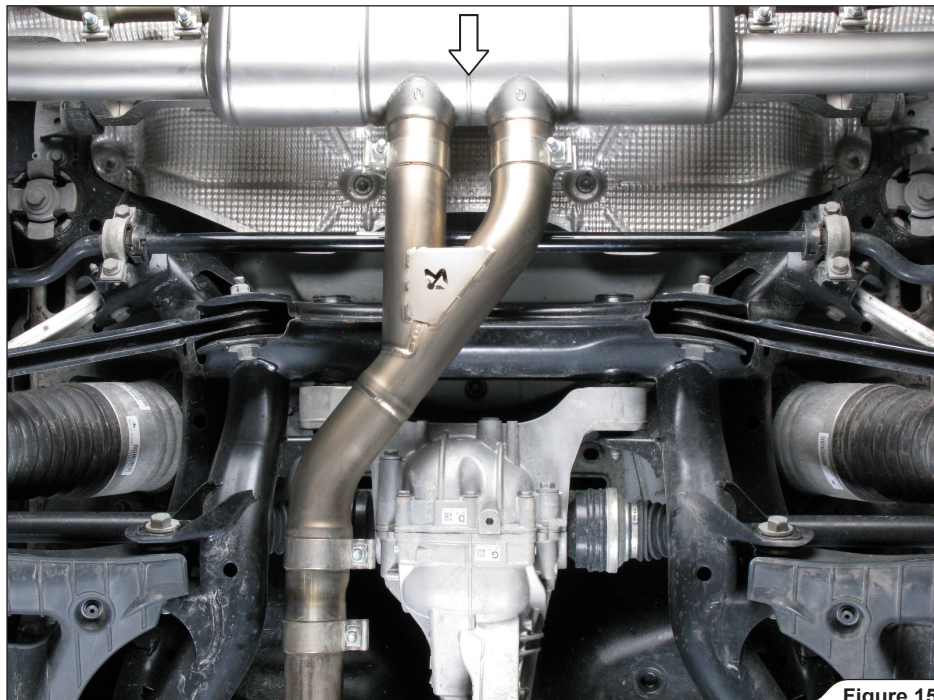

Figure 15
7. **For Diesel model only:** slide the muffler onto the link pipe (**Figure 15**).